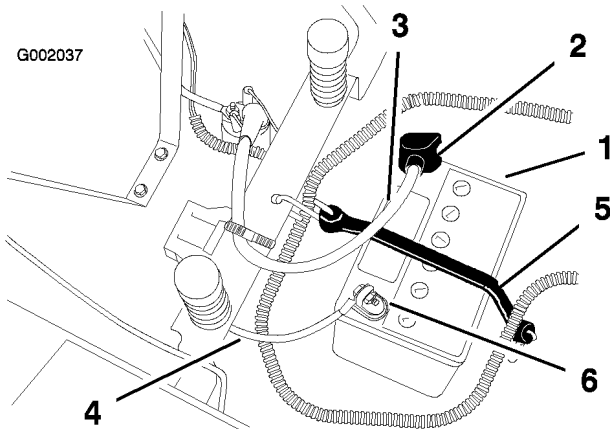

Figure 31
4. Disconnect the negative (black) ground cable from the battery post (Figure 31).
5. Slide the rubber cover up the positive (red) cable. Disconnect the positive (red) cable from the battery post (Figure 31).
6. Remove the battery hold-down (Figure 31) and lift the battery from the battery tray.
1. Position the battery in the tray with the terminal posts toward the rear (Figure 31).
4. Secure the cables with 2 carriage bolts (1/4 x 3/4 inch), washers (1/4 inch), and wing nuts (1/4 inch) (Figure 31).
6. Secure the battery with the hold-down (Figure 31).